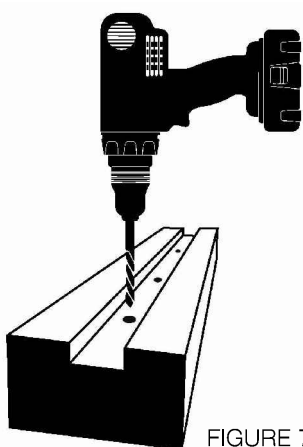

FIGURE 7
- If you have chosen a design with a Bottom Rail Closed, You will require draining holes drilled into the bottom of the rebate using a 16mm spade drill bit spaced at 300mm centres (See Figure 7)